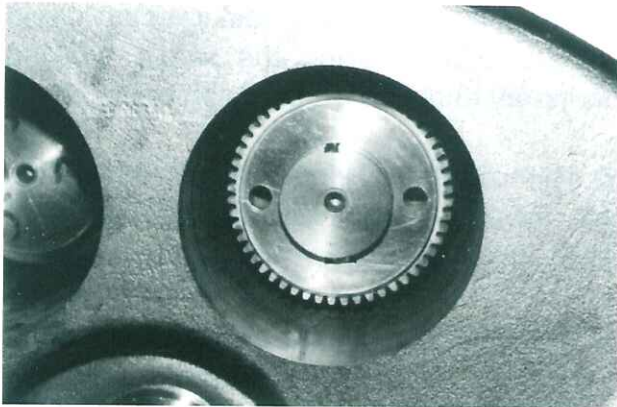

Fig. 61 Tapped Holes on High-stage side Gear Coupling Hub for Pulling Out Hub
- 3) Screw eyebolts into the blind hole to force the gear off the shaft (Fig. 61).